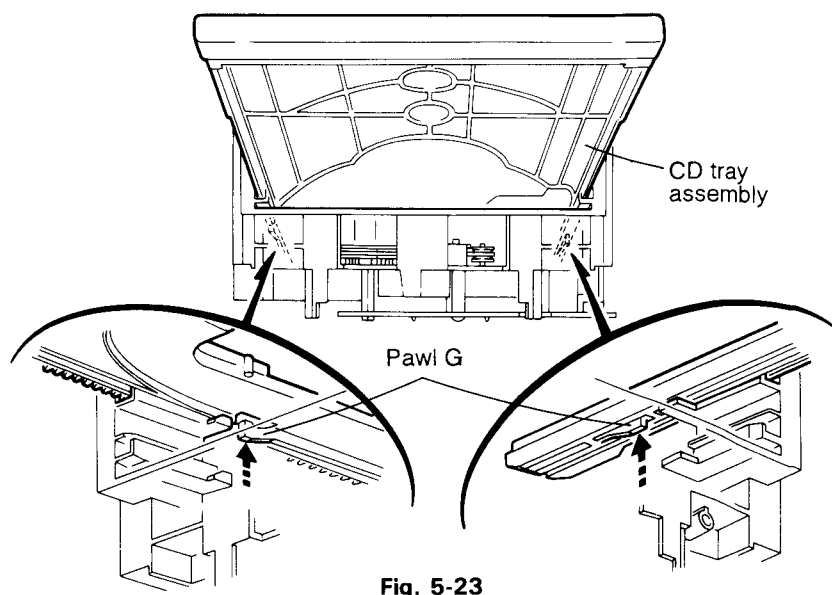

Fig. 5-23
15. At the position where the CD tray assembly has stopped, pull out the CD tray assembly while pressing the two pawls (G) on the back side of CD tray assembly (See Fig. 5-23). In this case, it is easy to pull out the assembly when it is pulled out first from the stage CD tray assembly.